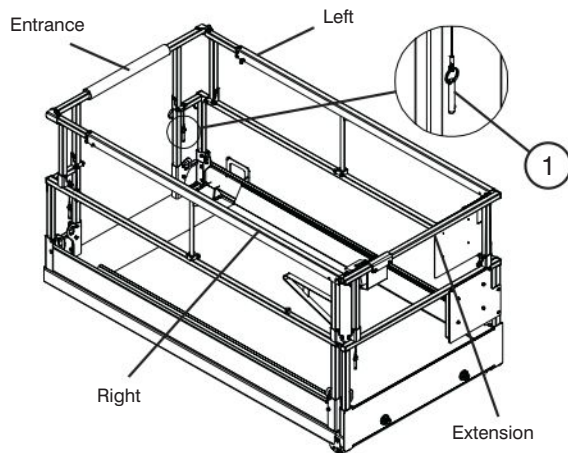

Figure 2-16a. Folding Guardrail System
6. Fold guardrails down in the following order: right-hand side, left-hand side, entrance and extension (refer to Figure 2-16a).